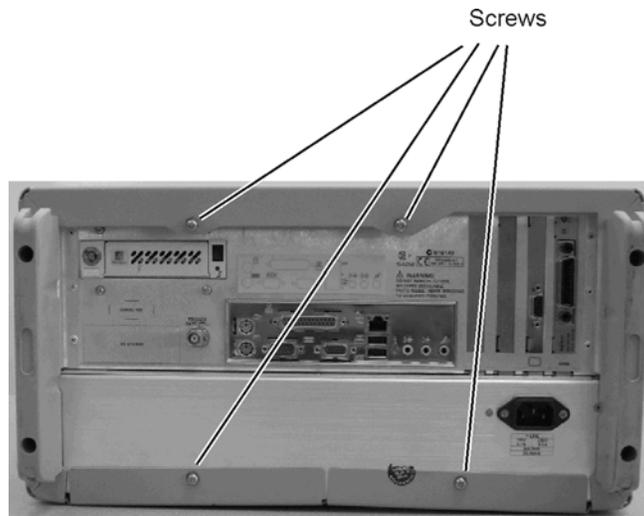

Figure 6-2. Removing the Cover Screws
- 4 Use a T-20 TORX driver to remove the four screws that fasten the cover to the instrument's rear panel, as shown in Figure 6-2.